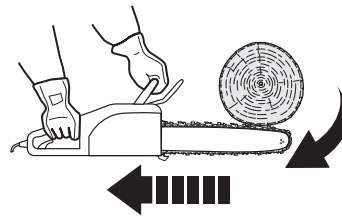

Fig.28
2. Pinching of the saw chain (3) along the top of the guide bar (4) may push the guide bar rapidly back toward the operator (Fig. 28).